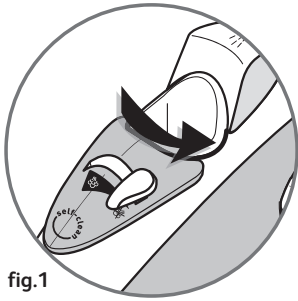

fig.1
- Unplug your iron before filling it and set the steam control to ☼ (fig.1).